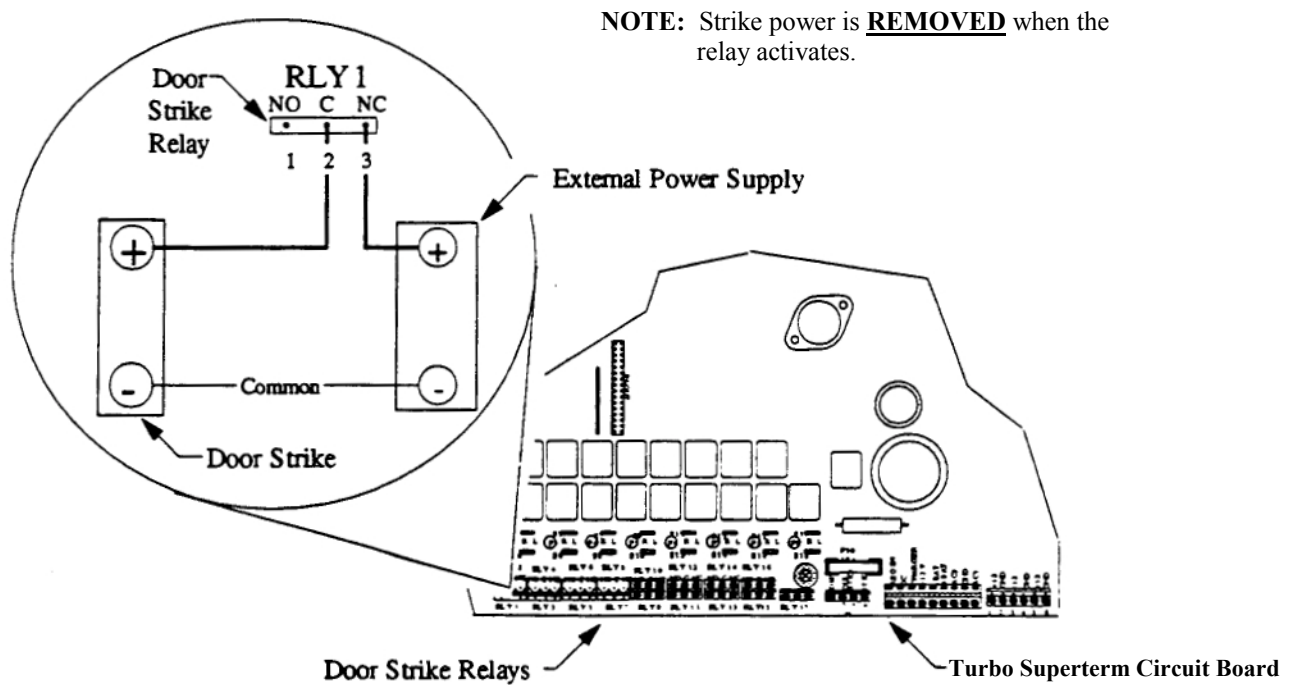

Figure 22 - REMOTE Power Magnetic Lock or Fail Safe Door Strike Relay Connection - Normally Closed (NC) Condition
Table 21 lists the connections between the RLY#x terminal strip and the door strike for a Normally Closed (NC) relay condition (see Figure 22).